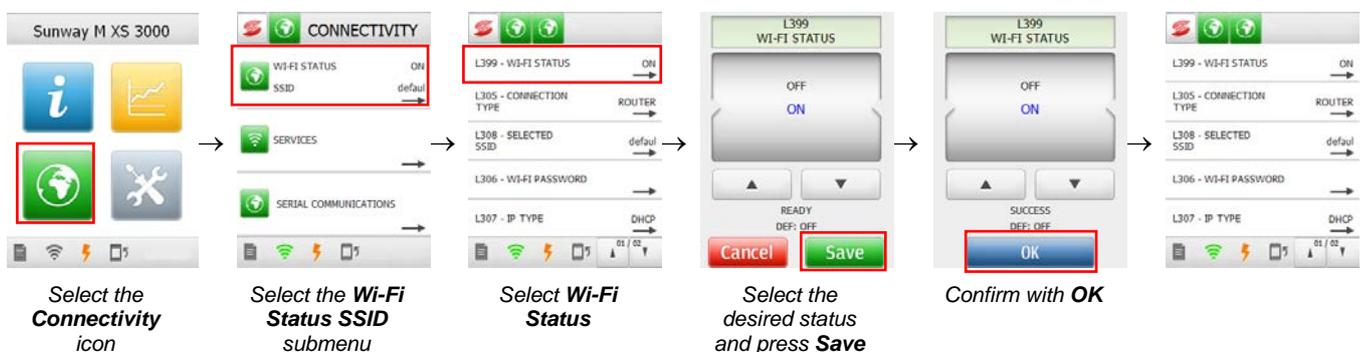

Figure 39: Activating the Wi-Fi connection
- Activate the Wi-Fi connection (see Figure 39)